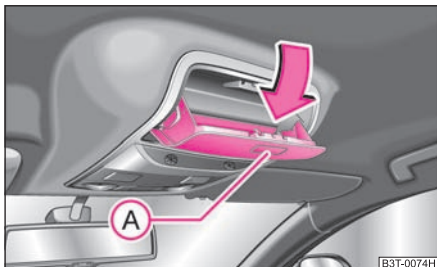

Fig. 96 Detail of the headliner: Stowage compartment for spectacles
- Press button **A**, the storage compartment folds down ⇒ fig. 96.